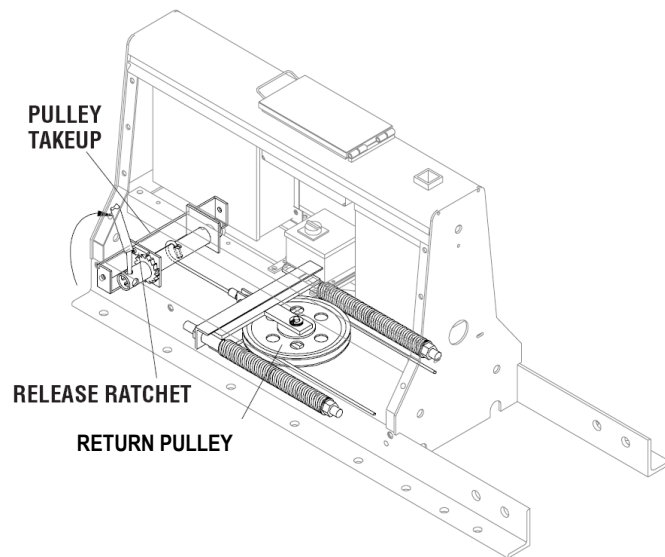

Figure 15
1) Locate and attach return pulley (Figure 15).